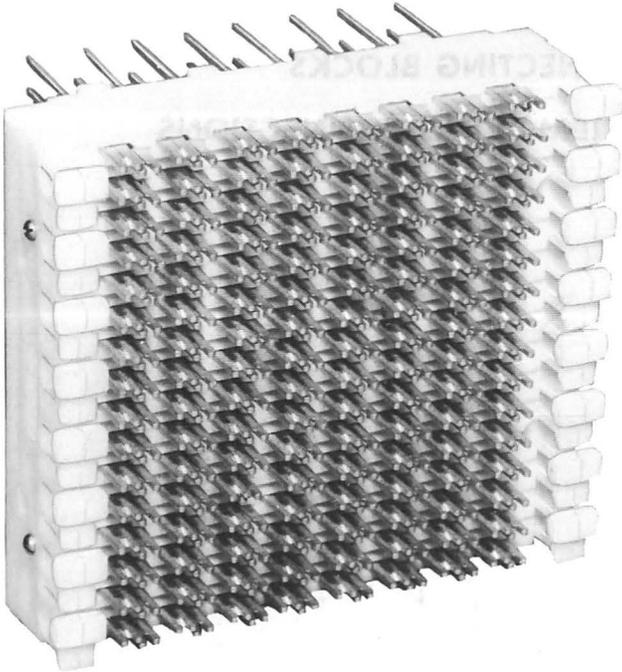

Fig. 2—78B1-64 Connecting Block
2.02 This block (Fig. 2) is similar to the 78A1-64 except it is equipped with twin-clip instead of single-clip connectors. The twin-clip connectors provide a capacity of two cross-connections for each of 64 pairs. This block is intended for use on main or intermediate distributing frames. It is also equipped with slotted fanning strips.